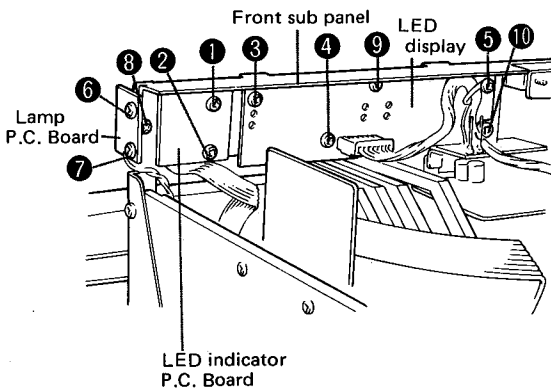

Fig. 4
2. Remove screws 1 and 2 on the back side of the front sub panel (Fig. 4) to remove the LED indicator P.C. board.